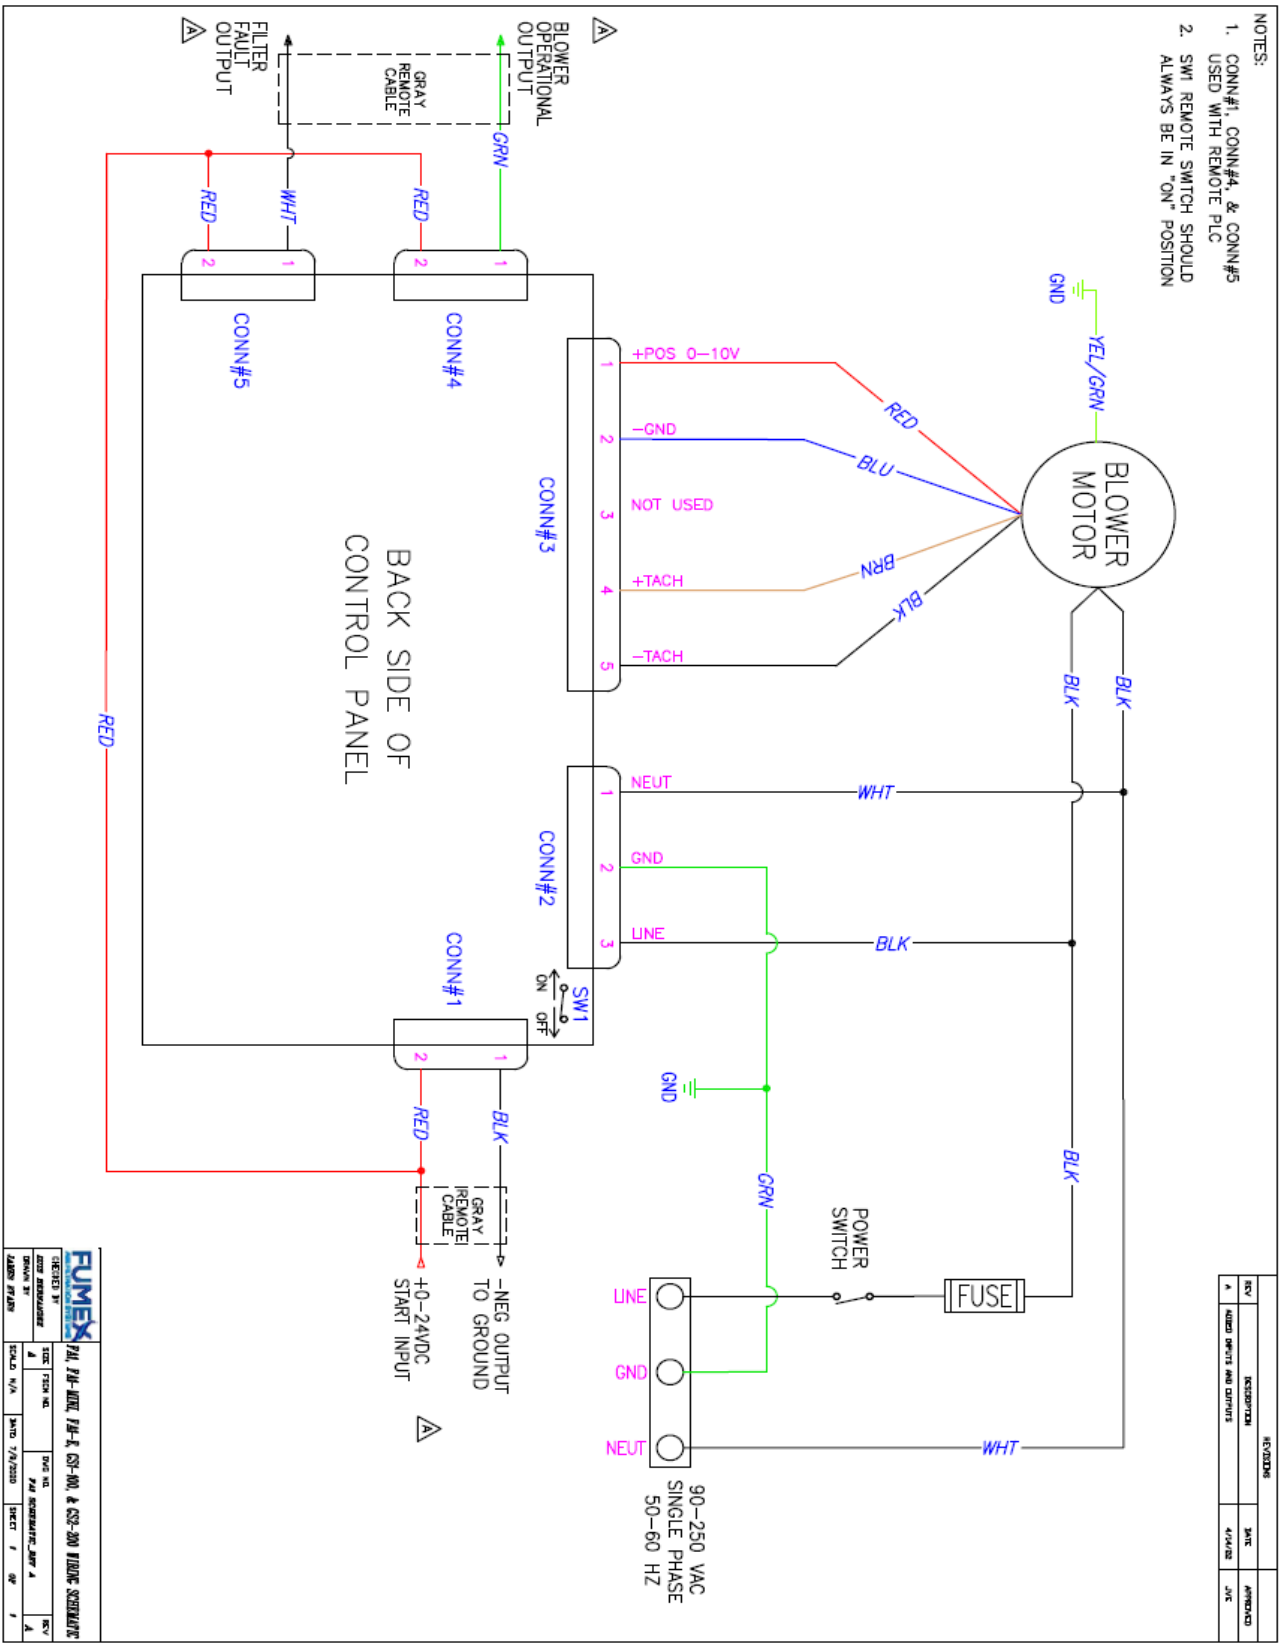

Figure 1
The FA1-Mini can be supplied with an optional interface package providing remote start/stop and filter monitoring capabilities (Part # FA228). Please see instructions below for Relay Activation/De-Activation procedures and refer to the drawing in Figure 1 for remote connections.
7. Remove the flash drive and apply 0-24 VDC to the start relay according to the wiring diagram in Figure 1 to start the unit.